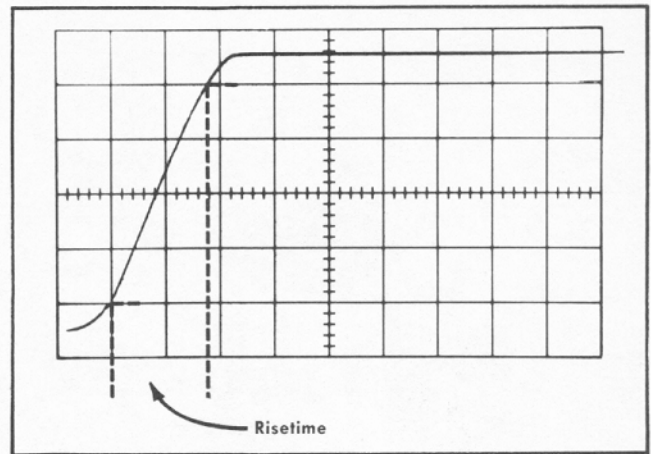

Fig. 6-60. Typical crt display when checking Calibrator risetime. Indicated risetime is 0.36 microsecond.
- j. Check—Risetime between 10% and 90% points on the waveform less than 1 microsecond as shown by less than 5 divisions horizontally (see Fig. 6-60).